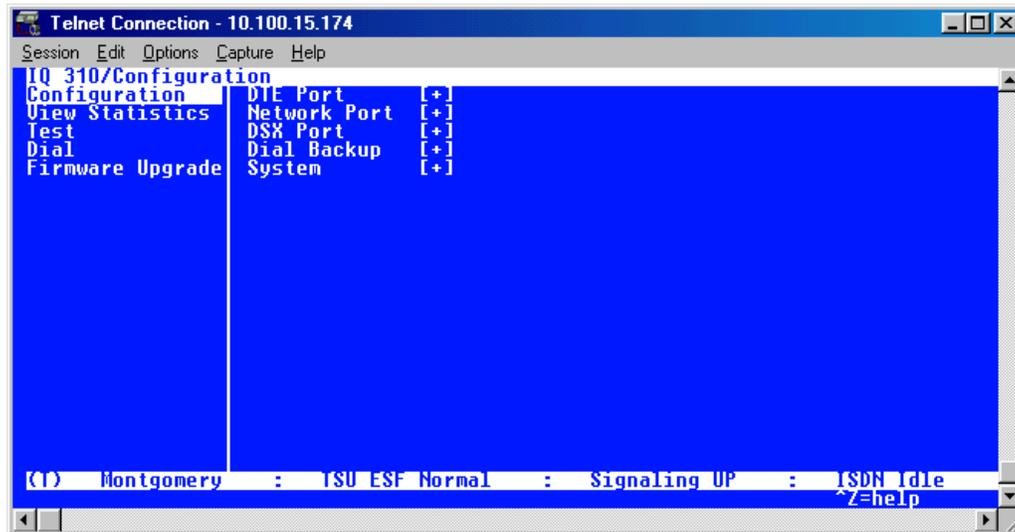
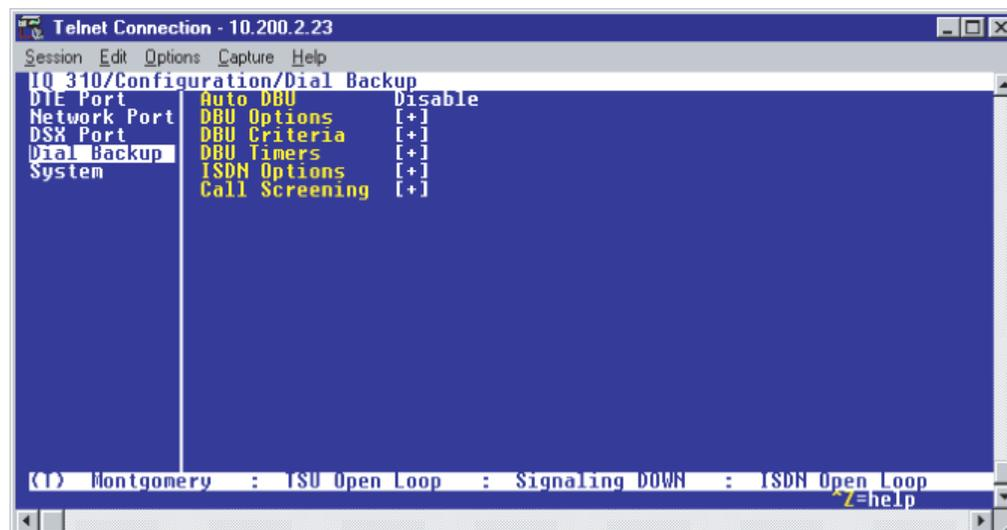

Figure 32. Configuration Menu
Figure 33. Dial Backup Menu
1. From the **CONFIGURATION** menu terminal screen (Figure 32) of the IQ 310, use the arrow keys to select **CONFIGURATION**; press **<ENTER>**.
2. Using the arrow keys, select **DIAL BACKUP** from the **CONFIGURATION** menu shown in Figure 32; then press **<ENTER>**. The resulting screen is displayed in Figure 33.